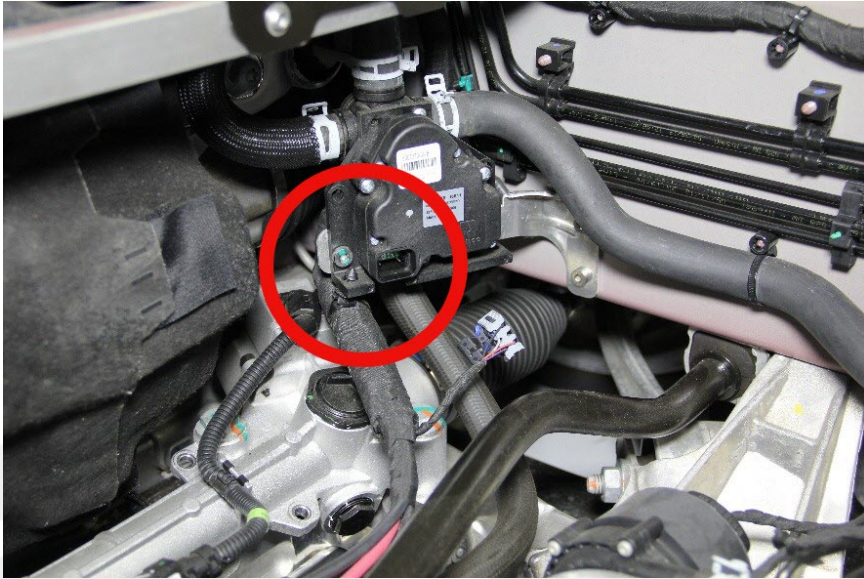

Figure 4
5. Release the clip that attaches the front body electrical harness to the 4-way coolant valve (Figure 4).